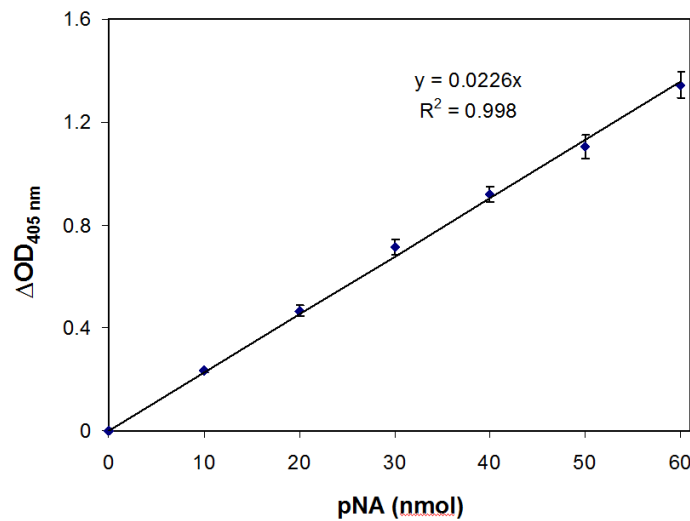

Figure 1. An example of pNA standard curve.
4. Create the standard curve by plotting $\Delta OD_{405\text{ nm}}$ versus the pNA standard amount and derive the resulting standard curve equation: $y=ax$ (see Figure 1 for an example of the standard curve).